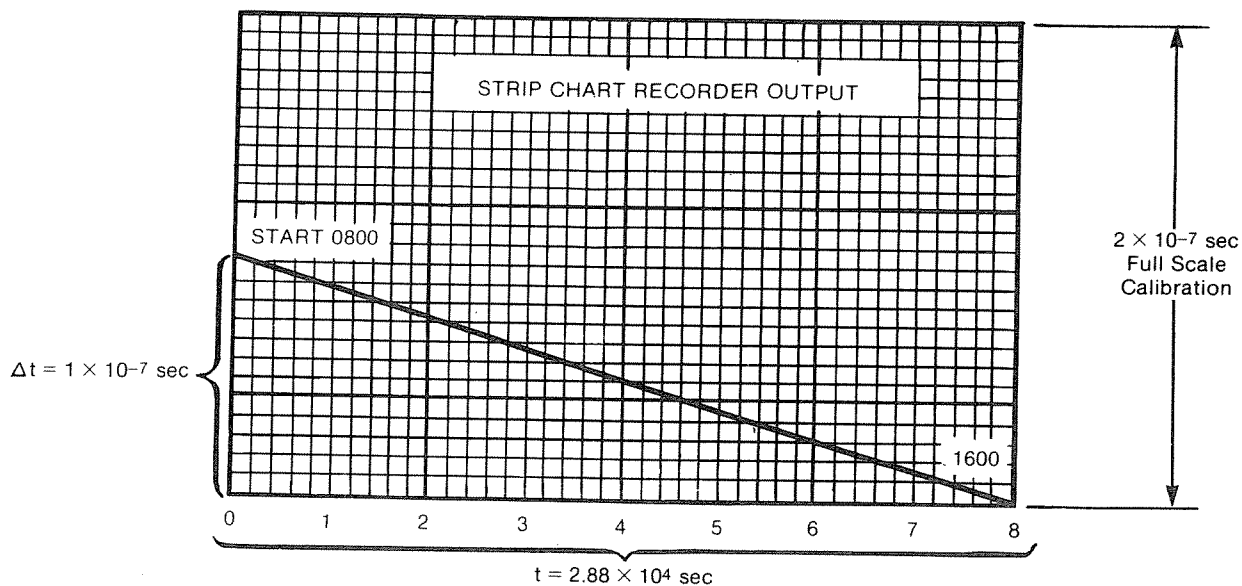

Figure 3-12. Error Measurement
$$\frac{\Delta t}{t} = \frac{1 \times 10^{-7} \text{ sec}}{8 \text{ hrs (60 min/1 hr) (60 sec/1 min)}} = 3.47 \times 10^{-2} \text{ (See Figure 3-12)}$$
- i. With the recorder set for 1 Volt full scale and 1 in./hr., the phase difference recorder will be  $0.2 \mu\text{sec}$  full scale with 5 MHz inputs. See Figure 3-12 for an example of a frequency difference measurement under these conditions.